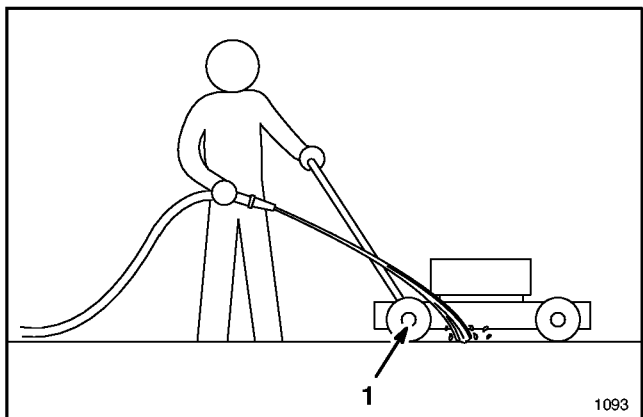

Figure 31
4. Hold the running garden hose at handle level and direct water to flow on ground just in front of right rear tire (Fig. 31). The rotating blade will draw water under the housing and wash out clippings. Let the water run for a few minutes or until you no longer see clippings being washed out from under housing.